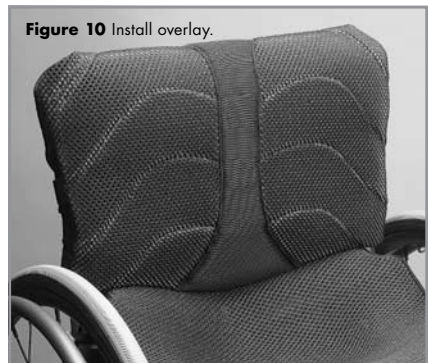

Figure 10 Install overlay.
4. Install the spacer mesh overlay (Figure 10).